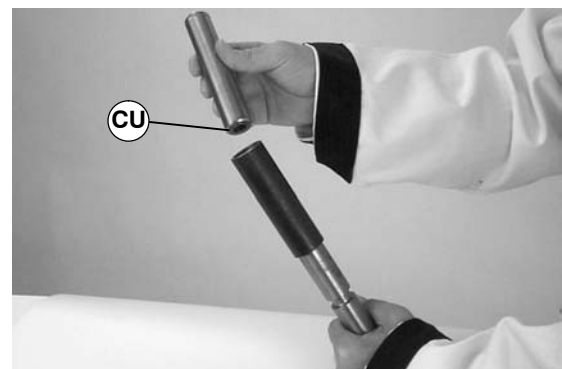

Figure 55
4. Place open end of shaft (CU of Figure 55) into sleeve.